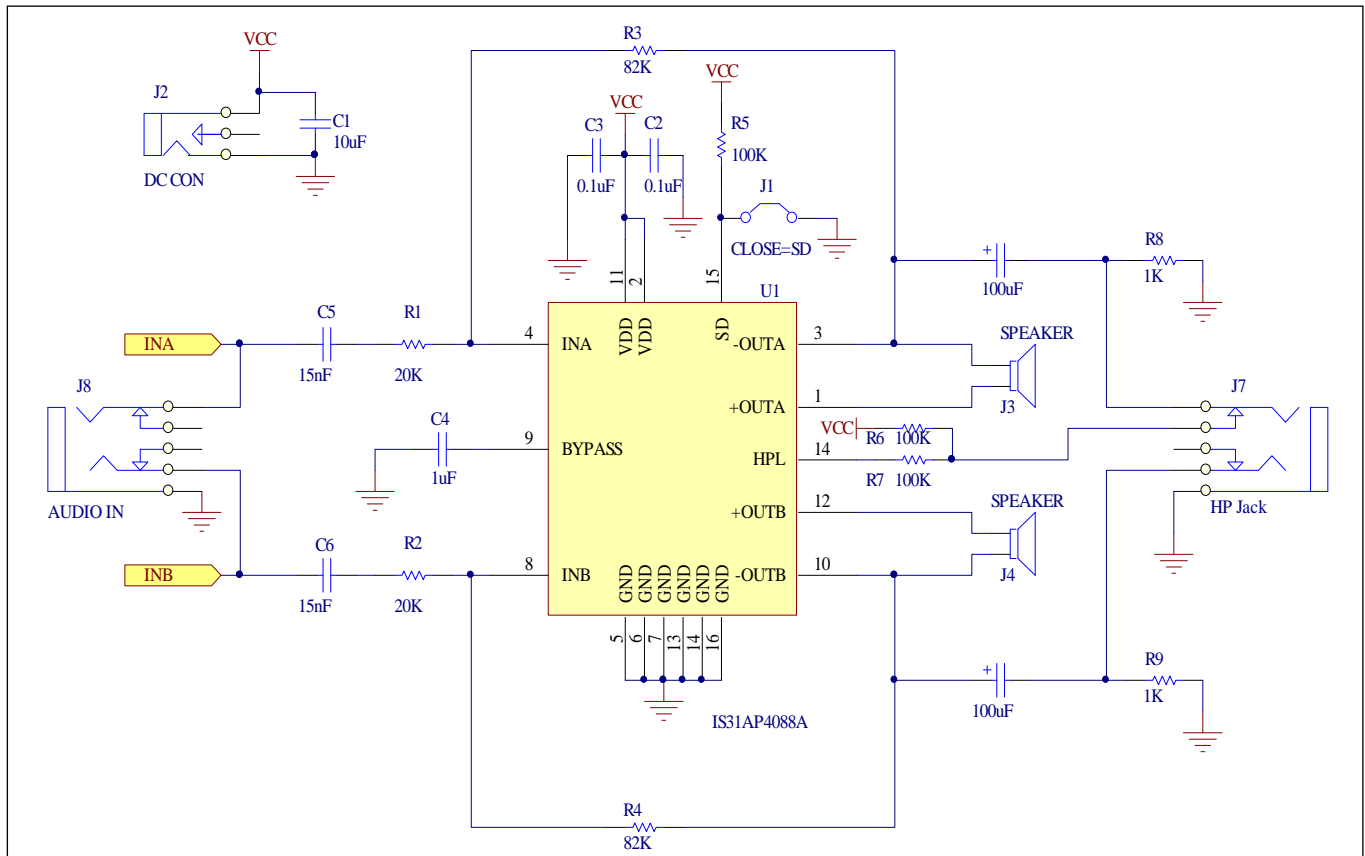

Figure 2: IS31AP4088A Application Circuit
*Bill of materials, refers to Figure 2 above.*